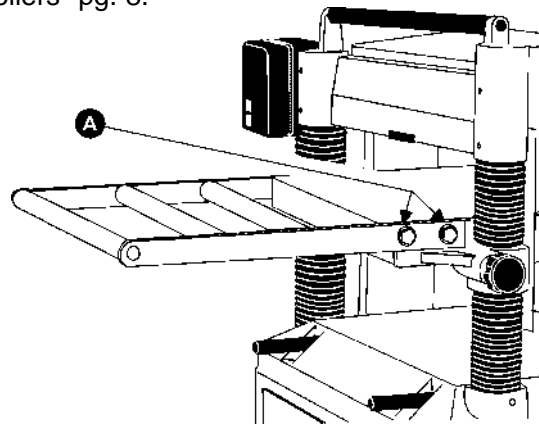

FIGURE 3
Mount the table extension rollers to the table using the provided hex hd. screws (A) and washers, Figure 3. The rollers should be adjusted before using the planer, see "Adjusting Table Extension Rollers" pg. 8.